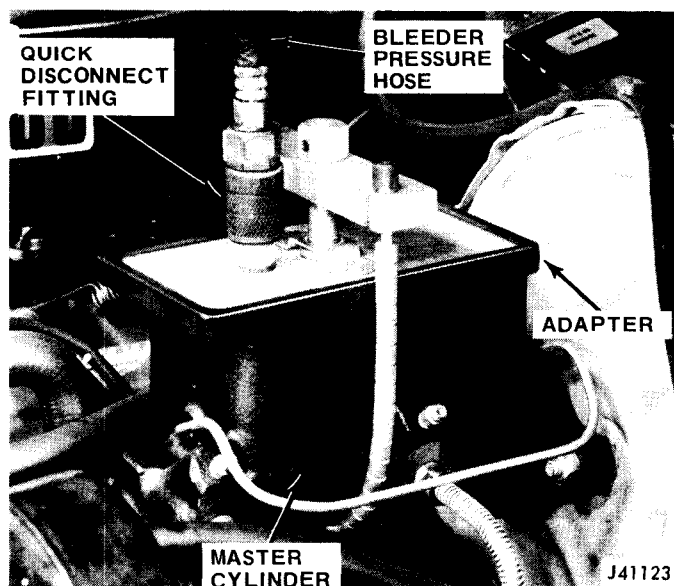

Fig. 9-12 Pressure Bleeder Adapter Installed
(1) Clean any accumulated dirt from master cylinder cover.
(2) Remove cover and rubber diaphragm seal. Place cover on work bench or on lint-free cloth. Do not allow diaphragm to contact dirt or foreign material.
(3) Fill master cylinder if required.
(4) Install brake bleeder adapter cover on master cylinder (fig. 9-12). Connect hose from pressure bleeder to fitting on adapter and open release valve on pressure bleeder.